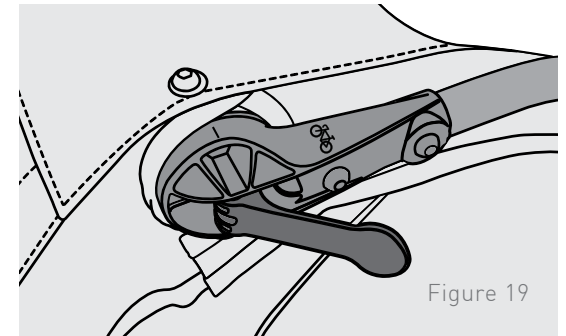

Figure 19
1. **Tow mode:** Always rotate the handlebar forward when trailer is in towing mode (Figure 18A). The handlebar should be horizontal and parallel to the ground, such that the mark on the handlebar is aligned with the bolt that attaches the cover (Figure 19).
2. **Stroll / Jog mode:** The handlebar may be rotated to serve as a handlebar while trailer is in strolling or jogging mode (Figure 18B). Open lever to rotate (Figure 19) and close lever to lock in place.